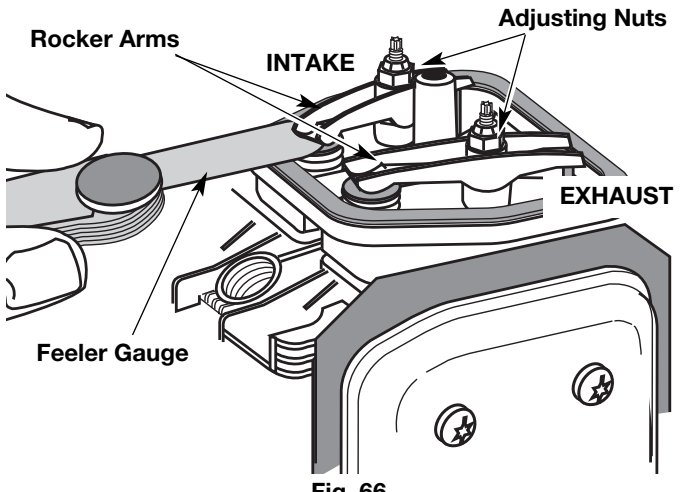

Fig. 66
9. Slide the feeler gauge between the rocker arm and the valve return spring. Measure the clearance between the valve stem and rocker arm (Fig. 66). Measure both the intake and exhaust valves.